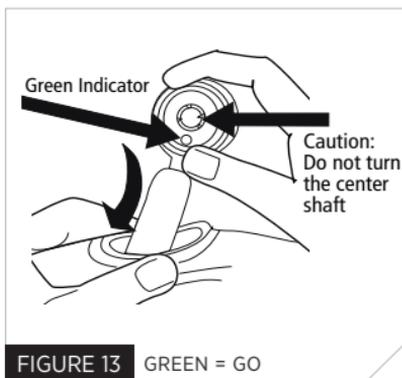

FIGURE 13 GREEN = GO
- Check that the new inflator body indicator is green. Insert the new inflator body with CO₂ cylinder pointing upward inside the PFD (Fig. 13). Let the sealing ring rest on the adapter around the four lugs.